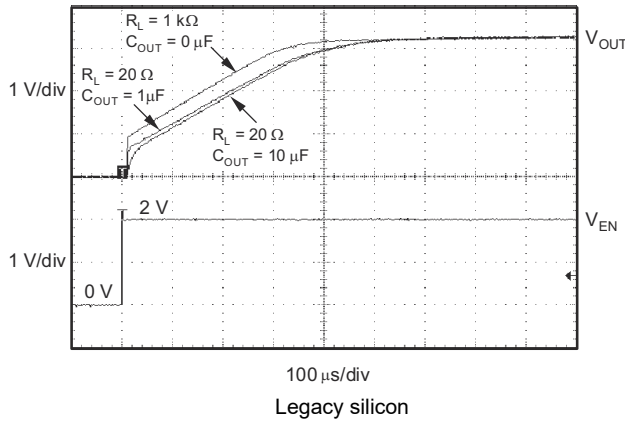

图 5-39. TPS73233 Turn-On Response
The enable pin (EN) is active high and is compatible with standard TTL-CMOS levels. A V_{EN} below 0.5V (maximum) turns the regulator off and drops the GND pin current to approximately 10nA. When EN is used to shut down the regulator, all charge is removed from the pass transistor gate. A V_{EN} above 1.7V (minimum) turns the regulator on and the output ramps back up to a regulated V_{OUT} (see 图 5-39).